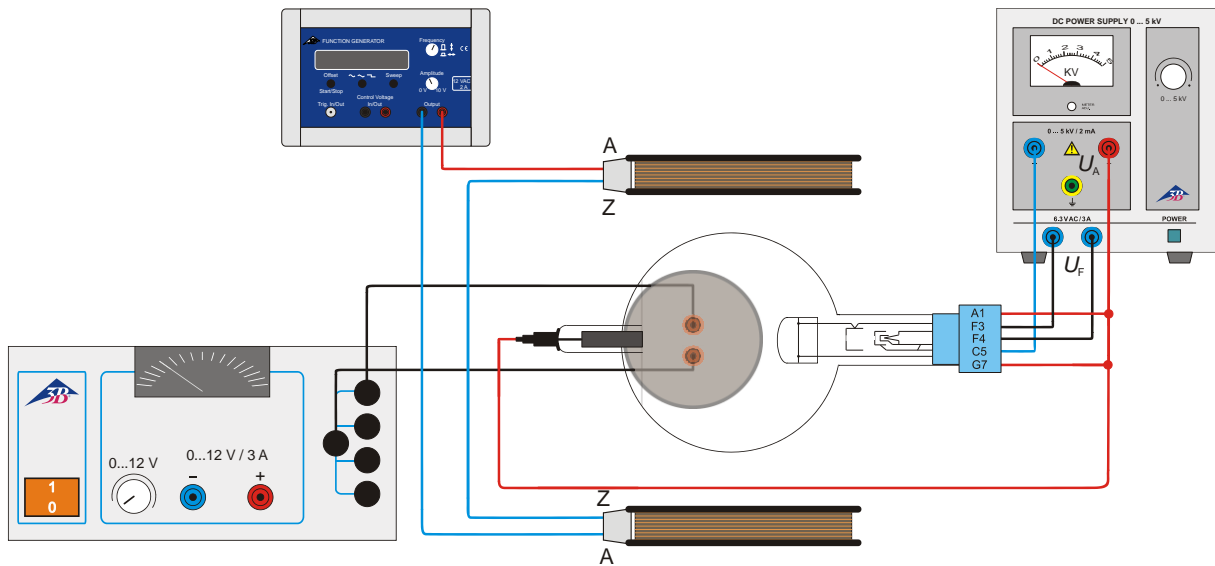

Fig.5 Deflection in crossed magnetic alternating fields (Lissajous figures)
- Set up the experiment as in fig. 5.